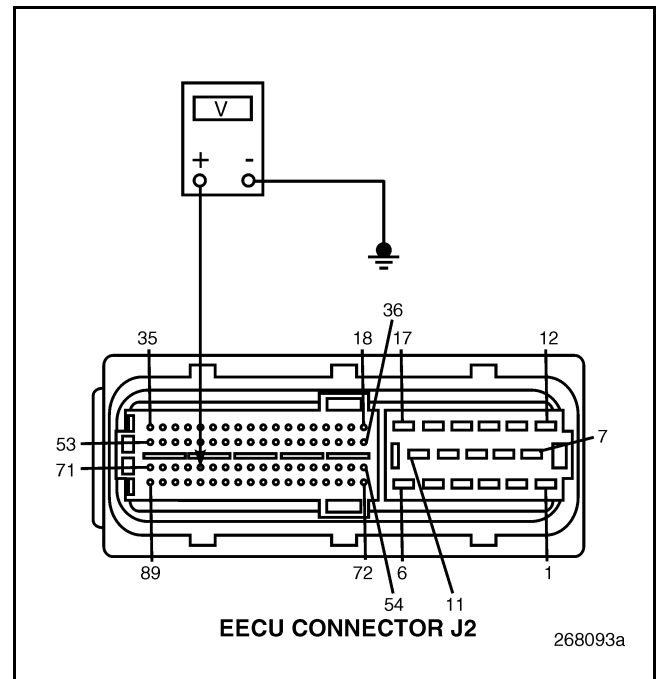

Figure 818
5. Measure the voltage between EECU connector J2 pin 67 and a good ground (see Figure 818).